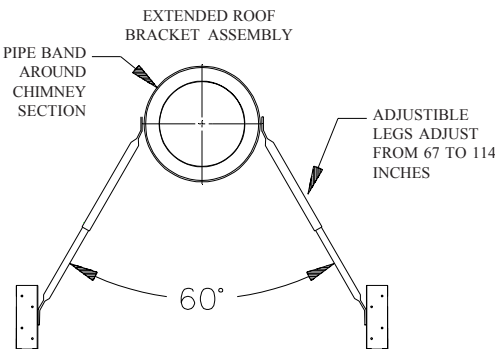

Fig 16
roof. (Figures 16 & 17 in the Extended Roof Bracket section). If you are located in heavy snow country, a "splitter" should be fabricated from heavy gauge sheet metal, and installed (Fig 14). This will protect the chimney by routing the snow around it. This item is not furnished by Simpson Dura-Vent.
2. **Attach the Legs:** The Adjustable Legs of the assembly will adjust from 67" to 114". Secure one end of the Legs to the Pipe Band using the nuts and bolts included (1 per Leg). Position the Adjustable Legs so they form approximately a 60° angle with the chimney, and with each other (Figures 16 and 17). Be sure that there is at least 3" of overlap between the top and bottom halves of the Adjustable Leg to insure a secure fit. In order to secure Legs in proper position, there is a hole provided in the outer leg where the outer and inner halves overlap. Use a 1/4" drill